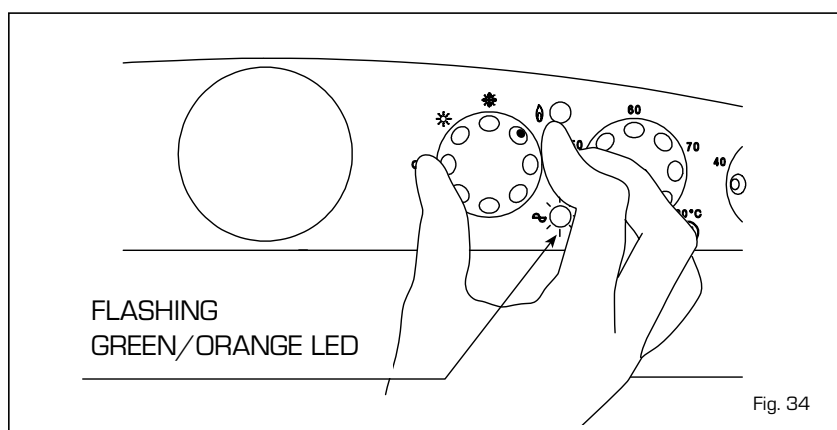

Fig. 34
To carry out the verification of combustion in the boiler turn the selector and stop on the position (0) until the green/ orange led starts to flash intermittently (fig. 34).